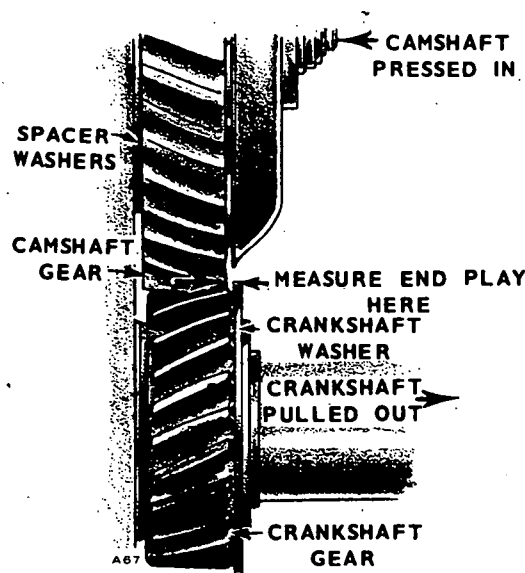

FIGURE 51. CAMSHAFT ENDPLAY
5. Install the camshaft assembly in the engine. Align the timing marks on the camshaft gear and crankshaft gear. See Figures 51 and 52.